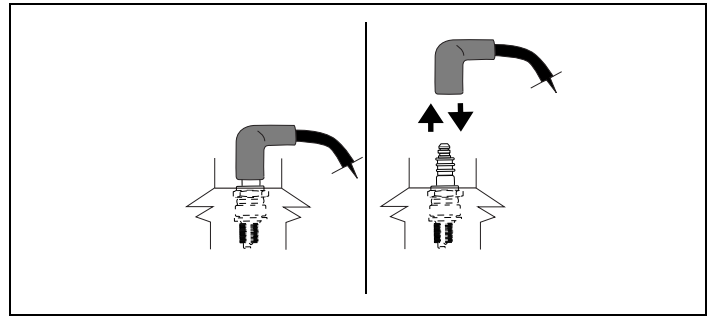

Figure 26. Disconnecting/Connecting Spark Plug
1. Disconnect spark plug wire and keep it away from spark plug. See "G. Avoid Accidental Starts" instructions on page 2. See Figures 26 and 27.